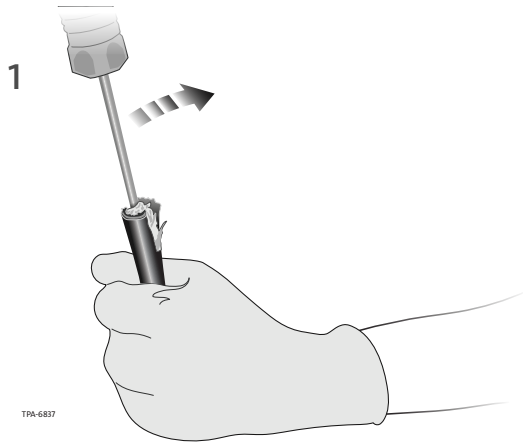

Figure 5
**Step 3:** Insert needle nose pliers (or screw driver) on the end of the cable no more than 1/2 inch at the a FastAccess® technology cable ridges (Figure 5). Press pliers/screw driver outward and break open at ridge location. Repeat on opposite side.